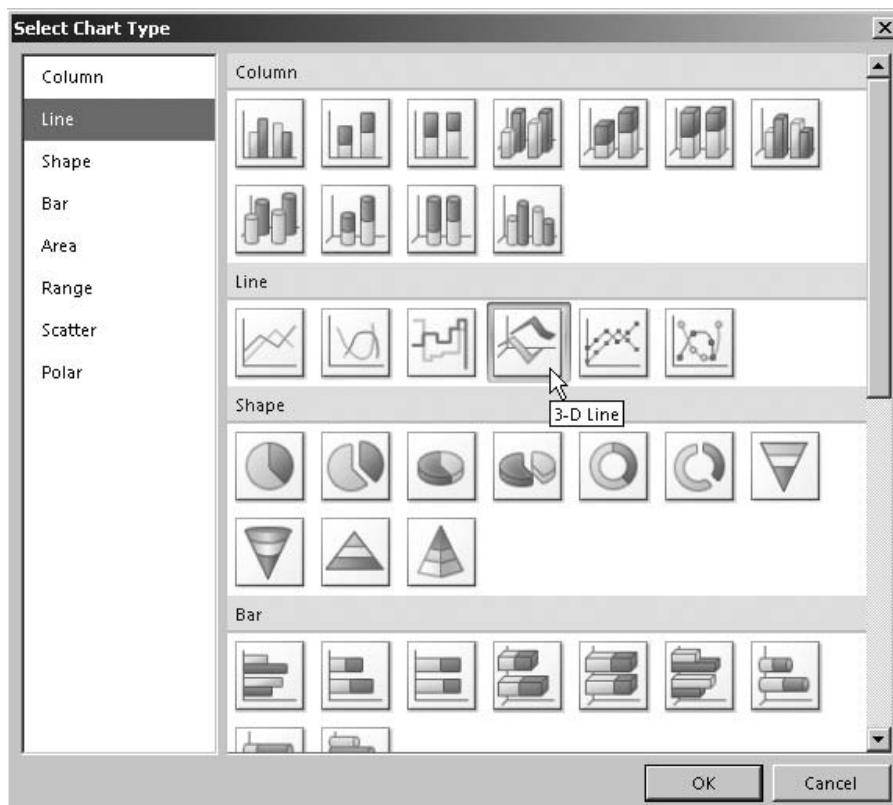

Figure 16-47 The Select Chart Type dialog box
36. Select the 3-D Line chart, as shown in Figure 16-47.